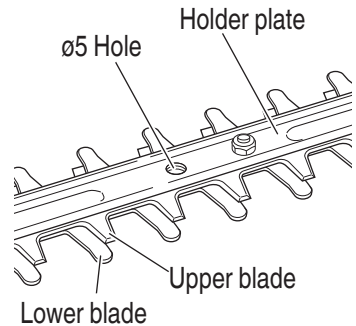

Fig. 8
- (1) A hole ($\varnothing 5$) used for positioning is located in the center of the blade. Adjust the parts including the upper and lower blades so that the holes in these parts are aligned. (**Fig. 8**)